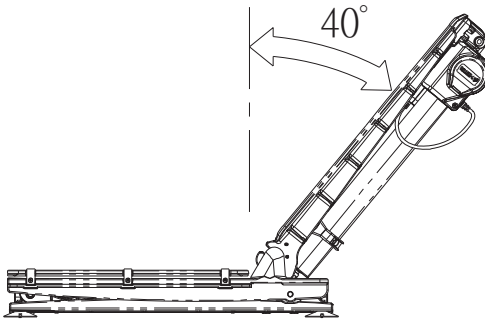

Fig. 4. Set the Backrest to its final reclined position.
5. Make sure that the actuator is in its shortest position. Rotate the actuator to set the Backrest to its final reclined position as shown in Fig. 4, and lock the Roller Shaft into the Actuator Locker.